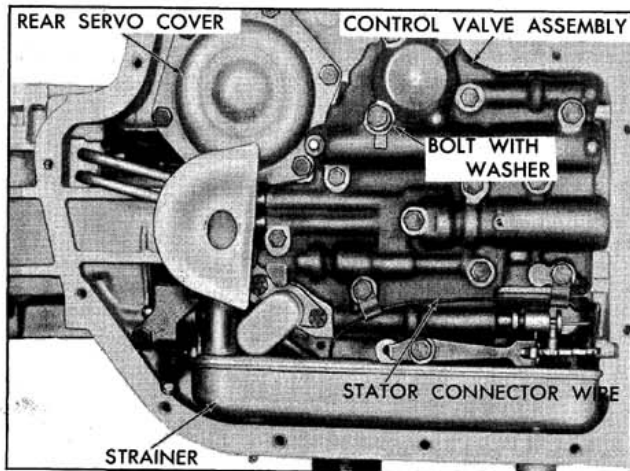

Fig. 6-33 Pan Removed
4. Remove pan and gasket. (Fig. 6-33)